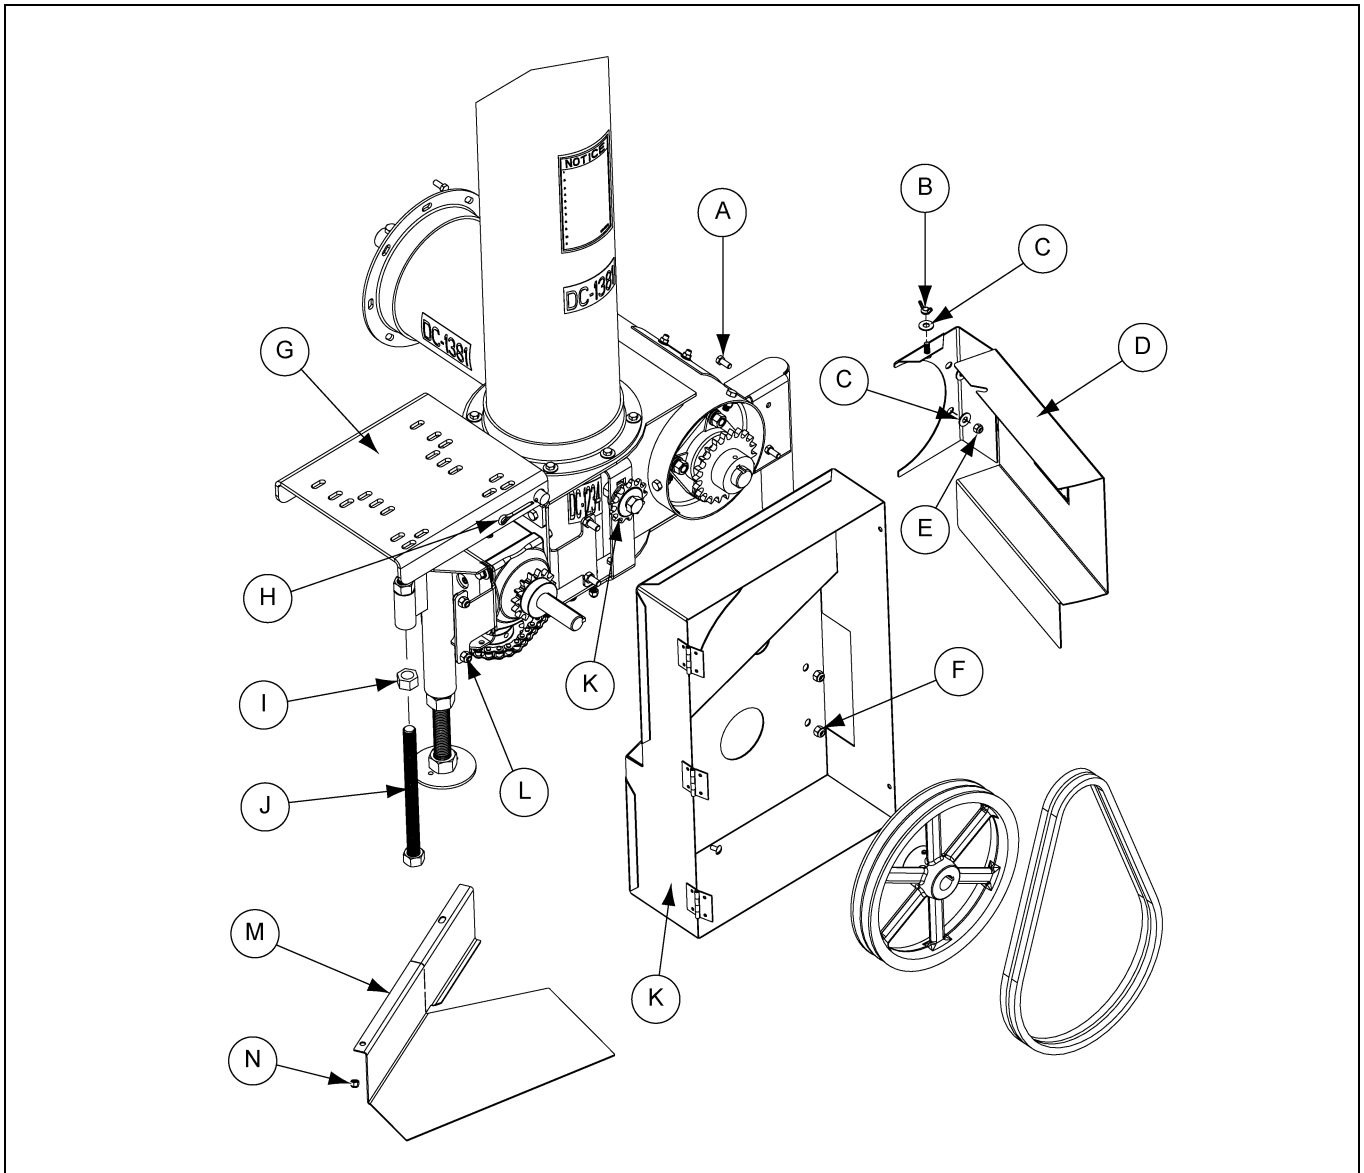
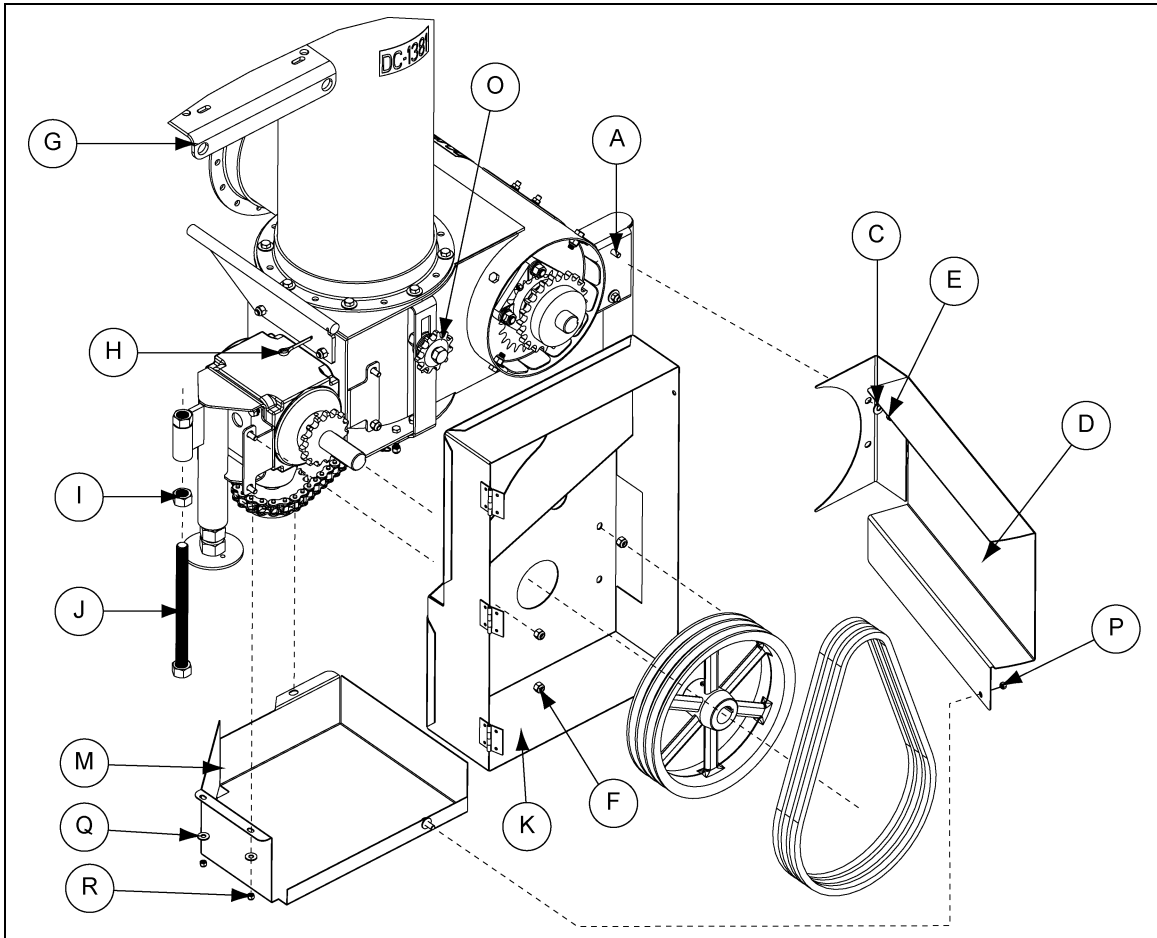

Figure 4C 6" and 8" Vertical
Figure 4D 10" Vertical
1. Assemble a 3/4" nut onto threaded adjustment rod. Then thread adjustment rod into the 3/4" nut that is welded onto the sleeve of vertical. (See Figure 4C.)
2. Slide motor mount plate (G) onto pivot rod weldment of vertical. Install cotter pin (H) to hold motor mount plate (G) place.
3. Attach belt guard (K) to belt guard mounting brackets with four (4) 3/8" x 3/4" long HHCS (L) and nylon lock nuts.
4. **6" and 8"**: Attach hinged side chain guard to vertical with two (2) 5/16" x 3/4" long HHCS (A), flat washers (C) and nylon lock nuts (E). Hold chain guard closed by using a 5/16" flat washer (C) and wing nut (B). (See Figure 4C.)
**10"**: Attach hinged side chain guard to vertical with two (2) 5/16" x 3/4" long HHCS (A), flat washers (C) and nylock nuts (E). Hold chain guard by attaching it to the lower chain guard using a 5/16" nylock nut (E). (See Figure 4D on Page 18.)
5. **6" and 8"**: Bolt lower chain guard (M) to underside of vertical using two (2) 5/16" x 3/4" long HHCS (A) and nylon lock nuts (E). *(See Figure 4C on Page 17.)*
**10"**: Bolt lower chain guard (M) to underside of vertical using one 3/8" x 1" HHCS (S) flat washer (V) and 3/8" nylock nut (F) through the flange with one hole. On the flange with two (2) holes, use two (2) 1/4" x 3/4" HHCS (T), flat washers (Q) and nylock nuts (R). *(See Figure 4D on Page 18 and Figure 4E.)*
7. Install a 4-1/2" O.D. pulley for 6" and 8" models on motor and for 10" models use a 4" O.D. pulley on motor. *(This pulley not furnished.)* Install 12" pulley on gearbox shaft as close to the sprocket as possible that is already mounted there. Using the 1/4" square key, which should already be in place, tighten set screws in pulleys. *(See Figure 4C on Page 17 and Figure 4D on Page 18.)*